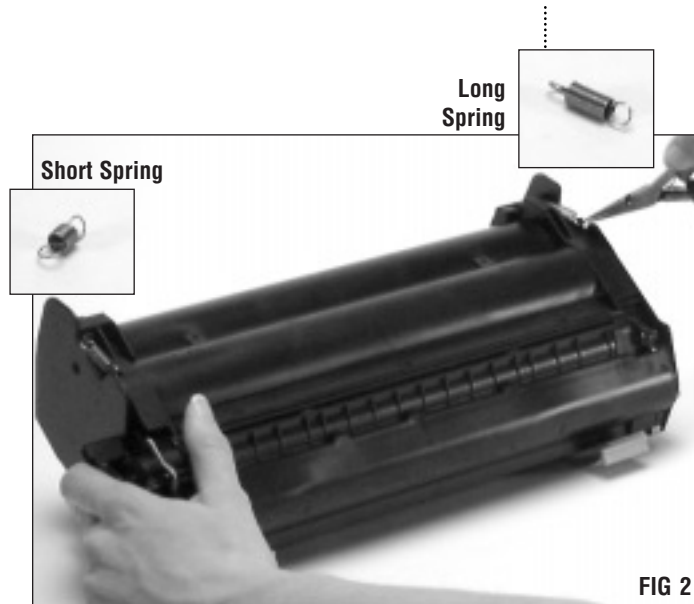

FIG 2
Do not use springs from other cartridge systems, as they may not meet the tension or length specifications required for the FX-V(KX) application. The FX-V(KX) springs differ in size; the long spring is installed on the drum spur gear end of the cartridge and the short spring is installed on the drum helical gear end of the cartridge(FIG 2).